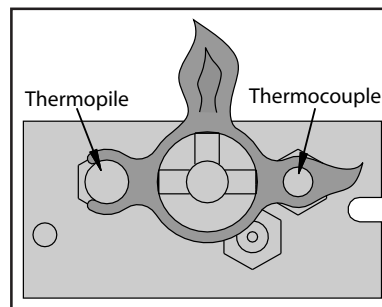
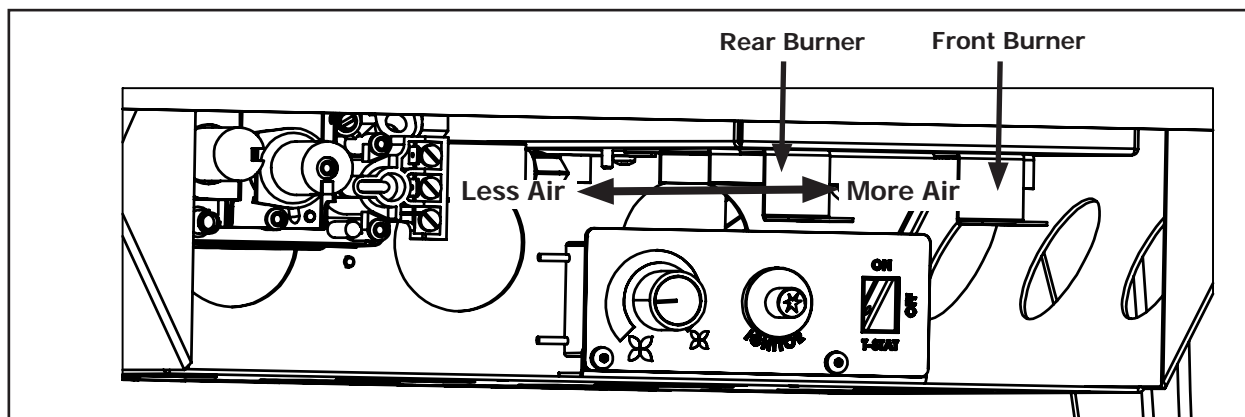
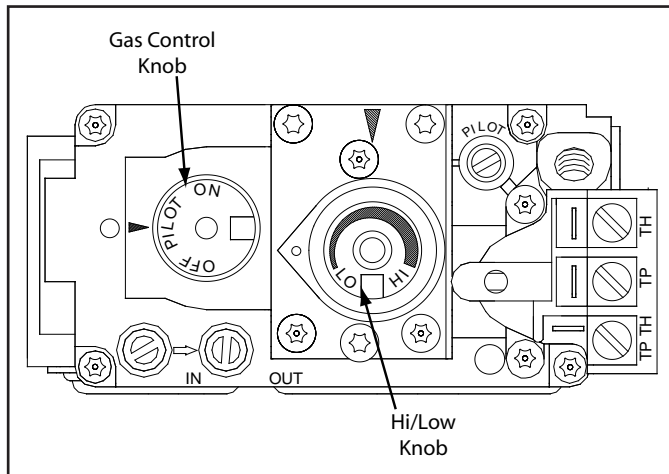

Figure 3. Pilot Flame
Figure 4. Air shutter adjustment lever.
Figure 5. Gas Valve Controls
1. Turn off the gas to the fireplace. **If not recently done, remove the glass and let the unit air out for at least five (5) minutes to clear out any gas.** Turn on gas to the heater.
2. Start the pilot by pressing the gas control knob (Figure 5) and turning it to PILOT. While pushing the gas control knob in, press the piezo ignitor several times until the pilot light starts. Hold the gas control knob in for 30 seconds. Check that the pilot has fully engulfed the thermocouple assembly (see Figure 3).
Behind the valve access door is the air shutter adjustment levers on the right hand side of the venturi box (see Figure 4) above the control panel. The air shutters allow the amount of air coming into the fireplace to be adjusted in order to accommodate different climates and venting arrangements. The left shutter adjusts the rear burner and the right shutter adjusts the front burner. Start the pilot and then the burner. Make sure the pilot flame is burning normally and none of the burner ports are plugged. Let the fireplace burn for roughly fifteen minutes and then examine the flames, compare the flames to Figure 47 on page 35.
The Berkeley gas valve and control panel (Figures 5 & 6) are located behind the valve access door at the front of the stove (Figure 4). To light the burner correctly follow the steps below: